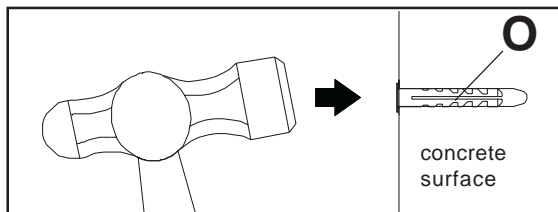

fig. 3.2
Use mounting plate as a template to mark the two mounting holes. **NOTE:** For wall mounting applications, position mounting holes in a vertical pattern. Drill two 5/16" (8 mm) dia. holes to a minimum depth of 1-7/8" (48 mm). Insert anchors (O) in holes flush with surface as shown in figure 3.2. Place mounting plate over anchors and secure with two #12 x 1-3/4" self tapping screws (N) as shown in figure 3.3.